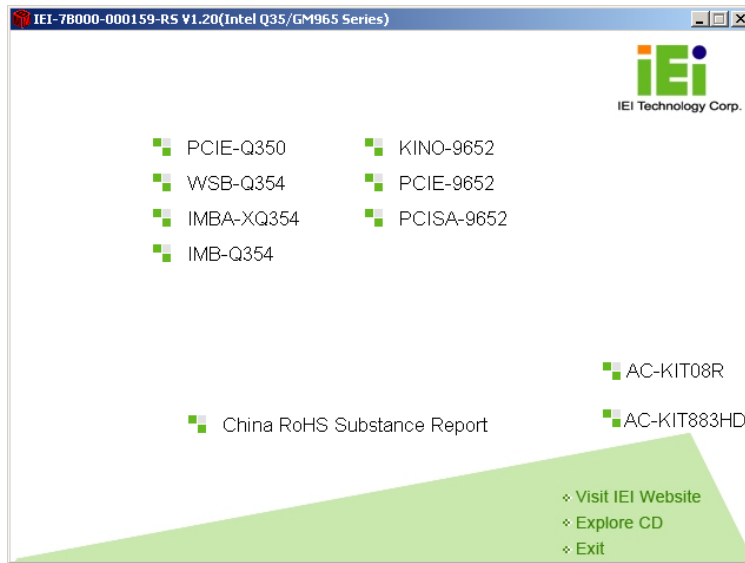

Figure 7-1: Introduction Screen
Step 2: The driver main menu appears (**Figure 7-1**).
Step 1: Select WSB-Q354 from the list in Figure 7-1.